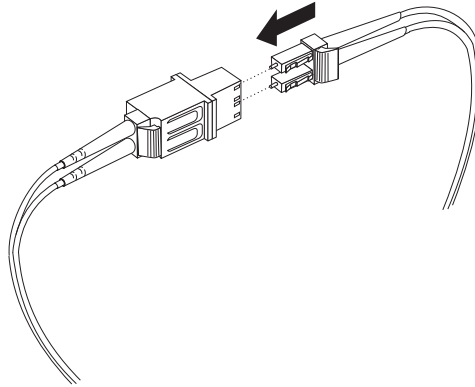

Figure 25. Connecting an LC-LC cable into the LC-SC cable adapter
4. Carefully insert the other end of the LC-LC cable into the LC connector end of the LC-SC cable adapter as shown in Figure 25 on page 29. Push in the connector until it clicks into place.